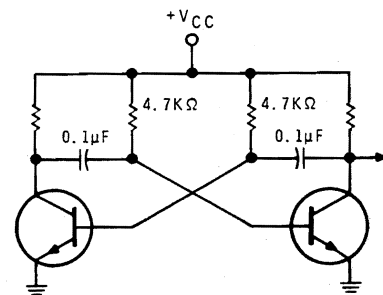

Figure 6-47
30. (astable) An astable multivibrator is shown in Figure 6-47. The approximate frequency at which this circuit will oscillate can be determined by the formula:  $f = \frac{1}{1.4RC}$ .